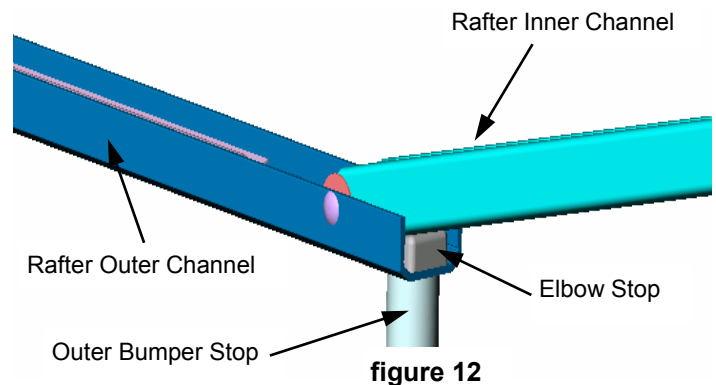
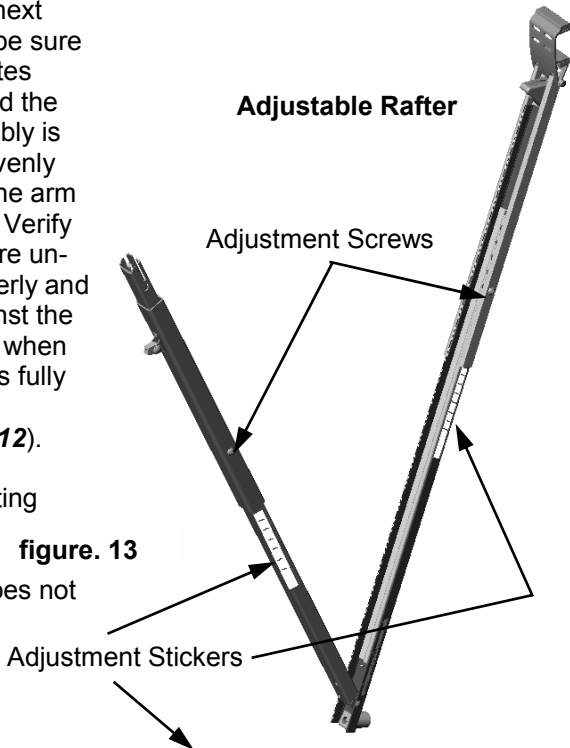

figure 12
figure. 13
A. Extend awning completely out. If awning will not extend fully adjust both rafters "longer" by removing the screws (see figure 13) and increasing length of both ends of the rafters the same amount. If canopy extends but rafter does not lock out (see figure 12) then "shorten" the rafter so the "elbow stop" completely locks out against the rafter "inner channel".
D. Extend the awning until the rafters are at the maximum open position allowed by the Rafter Elbow Stop (see figure 12). The Gas Shocks on both the arm assemblies should be compressed 1/4" - 3/4" at this time. Jog the power switch slightly to retract and tighten the canopy fabric.
E. Move the Set Collar on the motorized arm assembly up until it touches the base of the gas shock and tighten the clamping screws with the 9/64" hex wrench. (see **figure 12**).
F. Cycle the awning in and out several times, (see the Operating Instructions in the next section), to be sure that it operates smoothly and the roller assembly is extending evenly away from the arm assemblies. Verify the rafters are unfolding properly and resting against the elbow stops when the awning is fully extended (see **figure 12**). Refer to the troubleshooting guide if rafter operation does not appear correct.